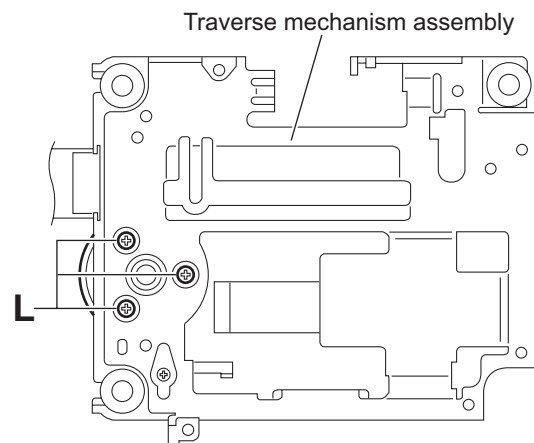

Fig.16
- From the bottom side of the traverse mechanism assembly, remove the three screws **L** attaching the spindle motor board. (See Fig.16.)